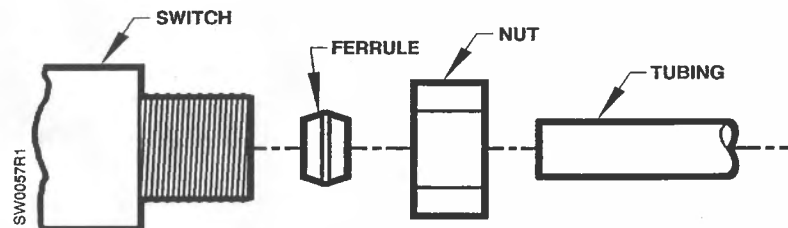

Figure 1. Connecting the Static Pressure Line.
**Installation** Mount the unit with the diaphragm in any vertical plane. Connect the static pressure line(s) as shown in Figure 1.